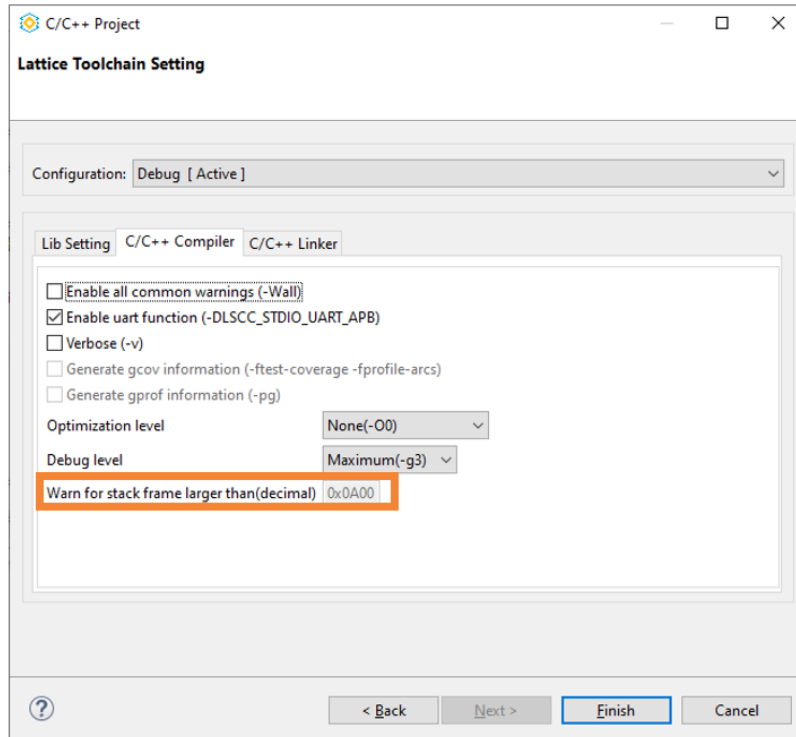

Figure G.5. Toolchain Setting GUI 1
- For general templates shown in Table 5.1, their stack sizes are fixed and cannot be modified. During the C project creation flow, in the **Lattice Toolchain Setting** GUI (Figure G.5), the **Warn for stack frame larger than** item cannot be edited to ensure the template code runs correctly.